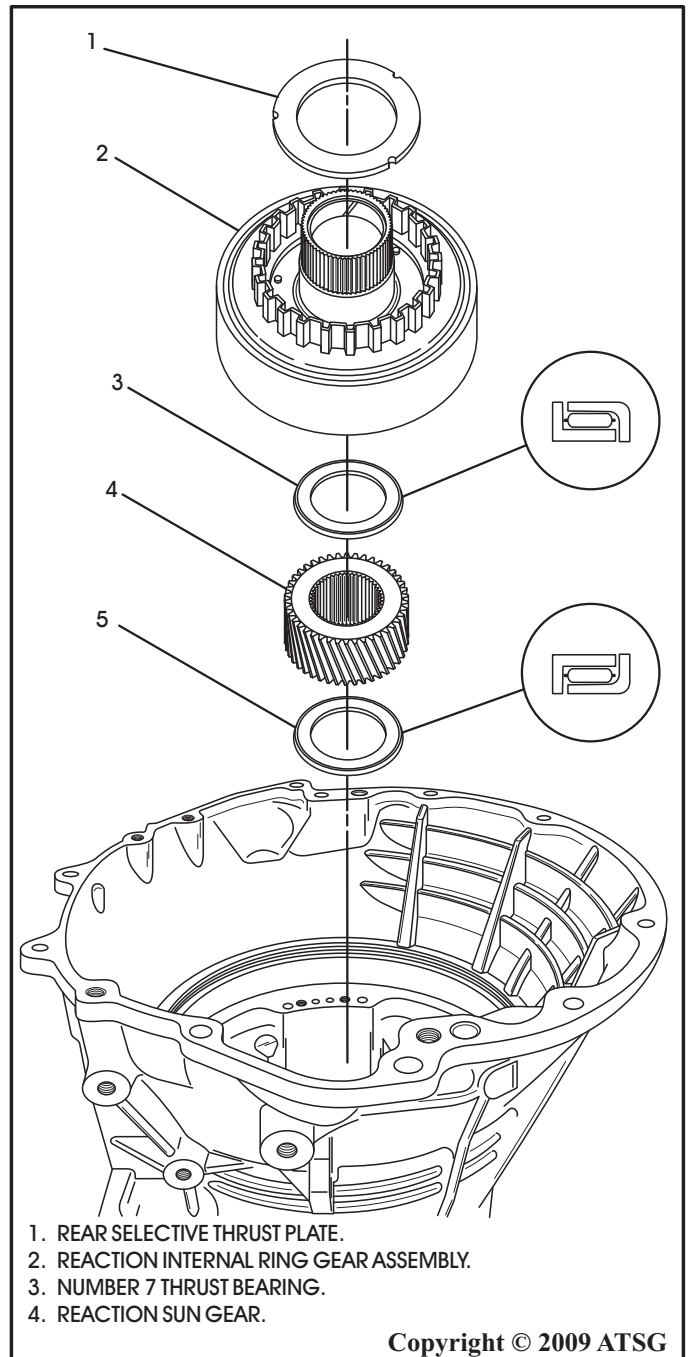

Figure 116
25. Install the number 8 thrust bearing down inside of reaction carrier/reverse sun gear assembly in the direction shown in Figure 116.
26. Install the reaction sun gear in transmission by rotating into position (See Figure 116).
27. Install the number 7 thrust bearing into back side of the reaction internal gear, in direction shown in Figure 116, and retain with a small amount of TransJel®.
28. Install the reaction internal gear assembly into trans by rotating into position (See Figure 116).
29. Install rear selective plate on reaction ring gear with oil grooves facing down and engaged on tabs as shown in Figure 116.
38. Change the rear selective thrust plate that is shown in Figure 116 as necessary to achieve the correct end-play and re-measure to verify.